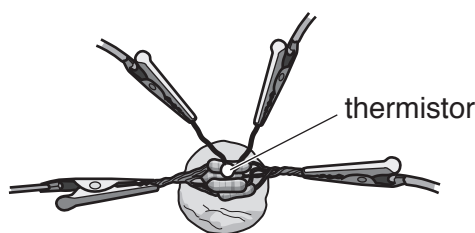

Fig. 4.2
3. A suitable disc thermistor has a resistance of about $500\ \Omega$ at 25°C . The RS component code of such a thermistor is RS 191-2229. Two crocodile clips should be attached to the wires of the thermistor and the thermistor disc should be placed on top of the heater shown in Fig. 4.2.
The heater (note 2) and thermistor (note 3) are assembled as shown in Fig. 4.2. Switch S and switch T should be labelled. It must be possible for the candidates to connect leads from a voltmeter between positions A, B and C so these points should also be labelled on the apparatus.